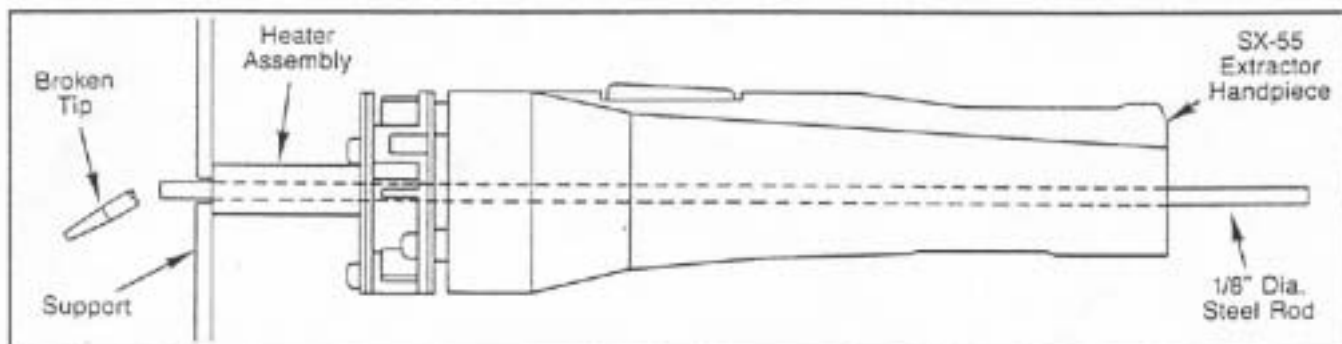

FIGURE 10. REPLACEMENT OF JAMMED OR BROKEN EXTRACTOR TIPS
- while holding Extractor, insert a steel rod (slightly less than  $\frac{1}{8}$ " diameter) into rear of Handpiece through the Heater Assembly to ram broken Tip from Heater Tube (refer to Figure 10). (NOTE: The Heater should be "HOT" for ease of removal).